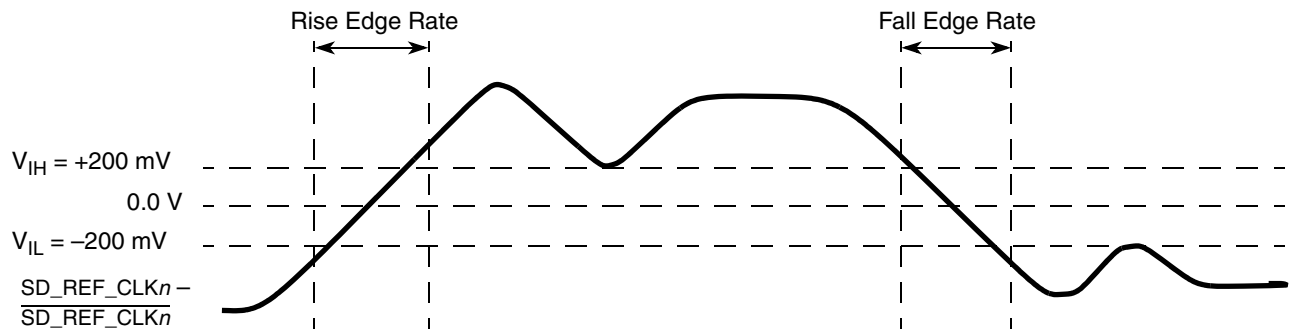

Figure 37. Differential Measurement Points for Rise and Fall Time
only one signal trace curve in a differential waveform. The voltage represented in the differential waveform is not referenced to ground. Refer to Figure 37 as an example for differential waveform.
3. Measured from −200 mV to +200 mV on the differential waveform (derived from SD_REF_CLK \bar{n} minus $\overline{\text{SD_REF_CLK}}_n$). The signal must be monotonic through the measurement region for rise and fall time. The 400 mV measurement window is centered on the differential zero crossing. See Figure 37.